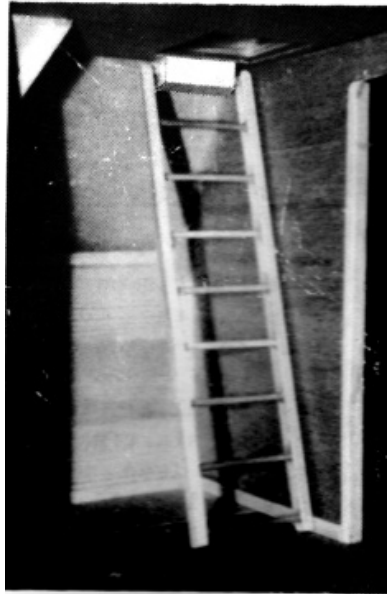

FIGURE 41
5. Locate the second story room partitions (Sheet HR-17). Glue the small one in place against the same wall as the porch roof window. Make sure the position of the large partition allows. Clearance for the attic ladder (dry fit this for now until the ladder assembly is completed and proper positioning is determined). See Figure 41.
3. Assemble ladder. Glue dowels into small edge trim 1" apart starting 1/8" from one end. Cut a 1 3/4" length of medium edge trim (5-41). This is the ladder hinge. Figure 41.
5. Glue large second story room partition in place. See Figure 41.